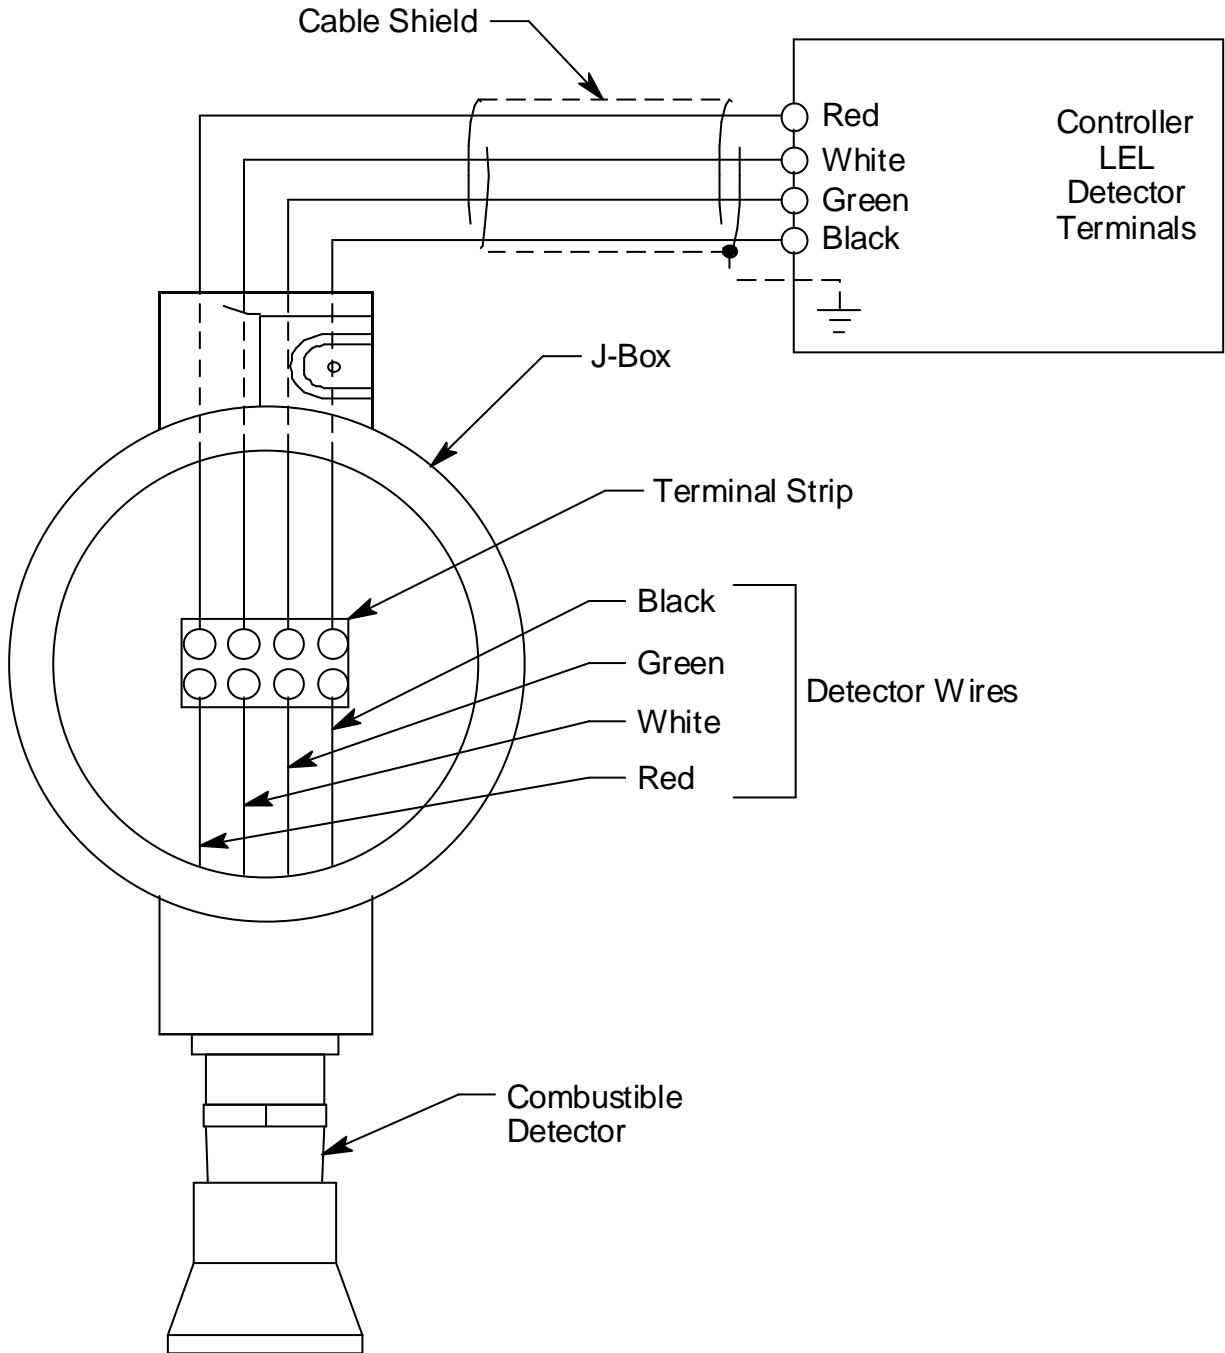

Figure 3: Wiring the Combustible Gas Detector to a Controller
If the detector is mounted directly to a controller, it is normally factory wired. Confirm that the detector's wires are connected to the appropriate controller detector terminals and skip to "Start Up" on page 10. See Figure 3, the controller operator's manual, and the controller's detector head specification sheet for the 61-0140RK detector for the wiring connections.
7. If the detector is installed directly on a controller, connect the detector leads to the appropriate detector terminal strip terminals. See Figure 3 for wiring to a generic controller. See the controller operator's manual and the controller's detector head specification sheet for the 61-0140RK detector for wiring specific to your controller.
If the detector is installed remotely from a controller in a junction box, connect the detector leads to the terminal block the same way the old detector was wired (see Figure 3). See the controller operator's manual and the controller's detector head specification sheet for the 61-1000RK detector to verify the connections to the controller are correct.